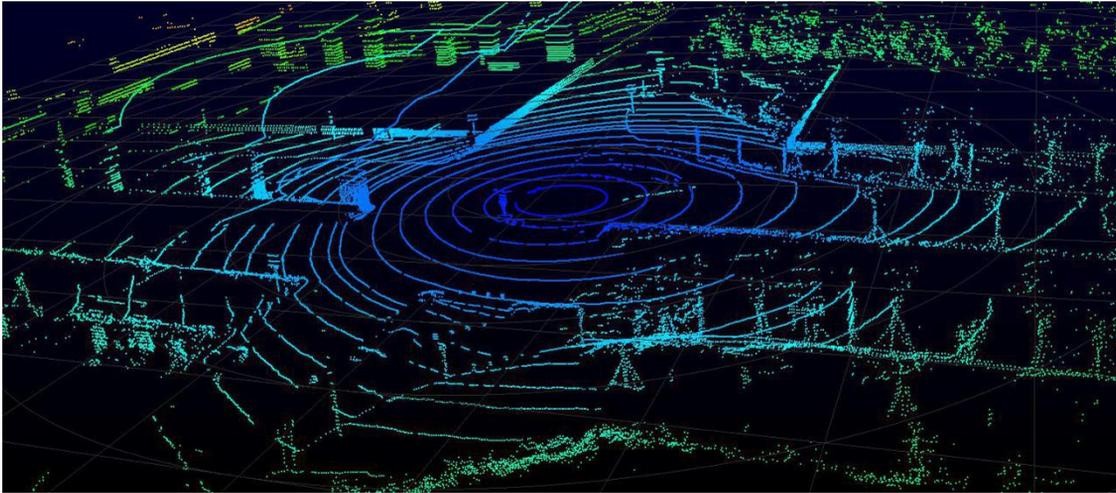

Figure C-3: RSView Sensor Stream Display.
5. RSView begins displaying the sensor data stream (Figure C-3). The stream can be paused by pressing the **Play** button. Press it again to resume streaming.